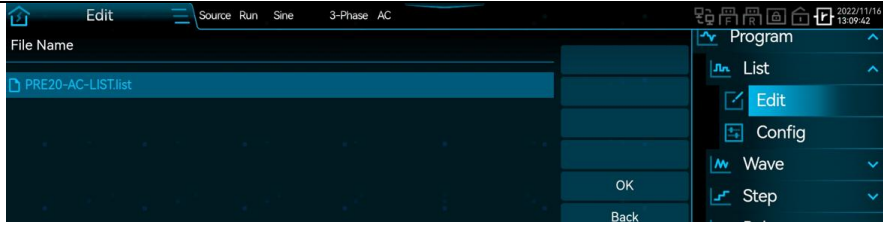

Figure 70 Waveform File Selection Interface
- 3) Return to the List programming interface, click 'Import', and in Figure 70 select the previously saved file (with the .list extension), click 'Confirm', and the saved waveform data will be imported into the List programming interface.